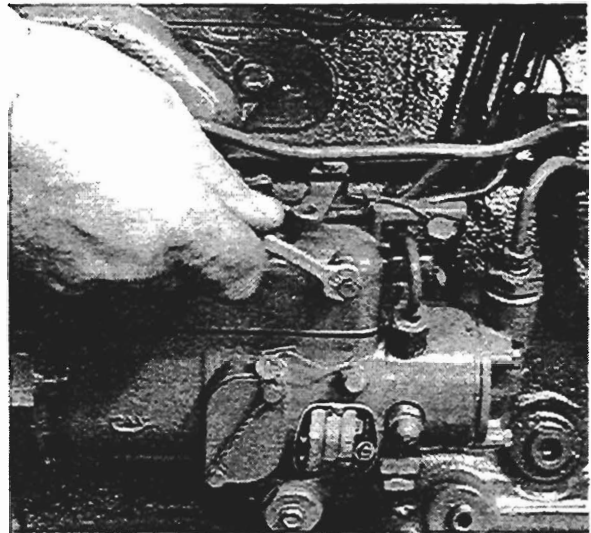

Fig. P3
4. Loosen the vent screw on the side of the governor control cover of the fuel injection pump (see fig. P3).